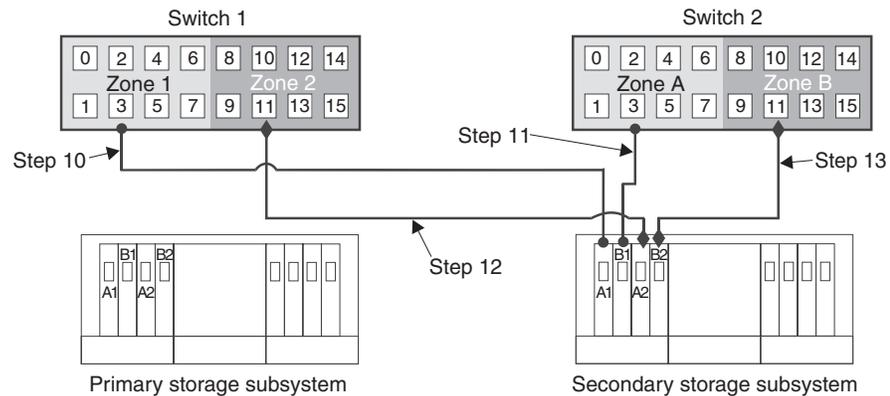

Figure 32. Secondary storage subsystem connections to Fibre Channel switches
10. Connect controller port A1 of the of the secondary storage subsystem to an available port in Zone 1 of Switch 1, as shown in Figure 32 on page 39.
11. Connect controller port B1 of the of the secondary storage subsystem to an available port in Zone A of Switch 2, as shown in Figure 32 on page 39.
12. Connect controller port A2 of the of the secondary storage subsystem to an available port in Zone 2 of Switch 1, as shown in Figure 32 on page 39.
- Connect controller port B2 of the secondary storage subsystem to an available port in Zone B of Switch 2, as shown in Figure 32.